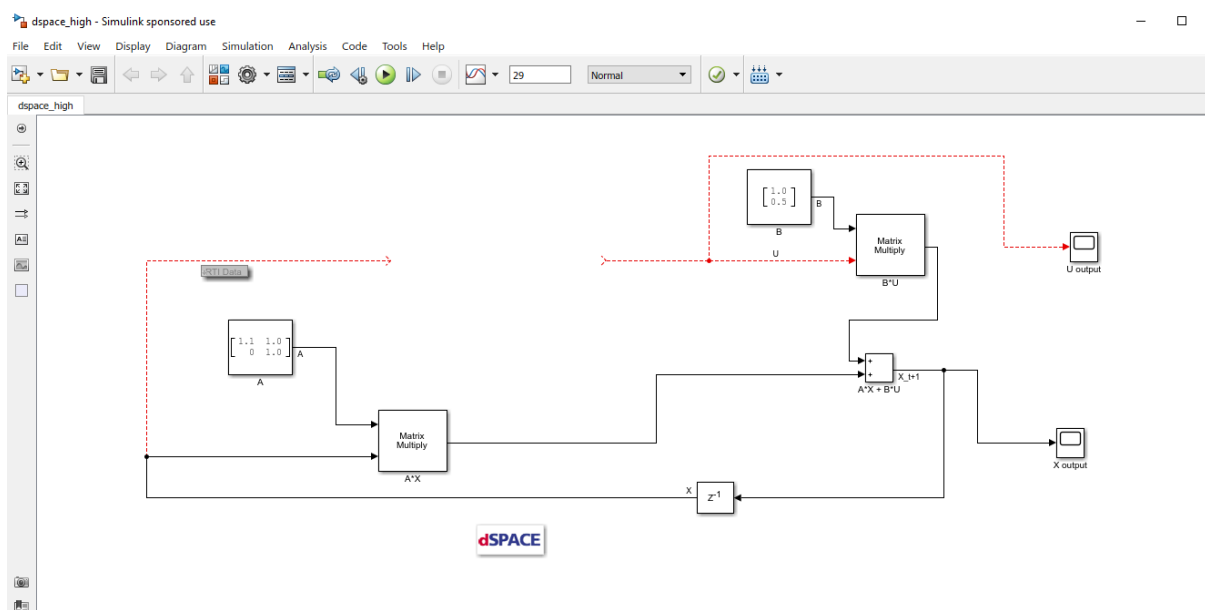

Figure 13.3: Populate the Simulink model.
3. (Figure 13.3) Populate the Simulink model with the system you want to control.